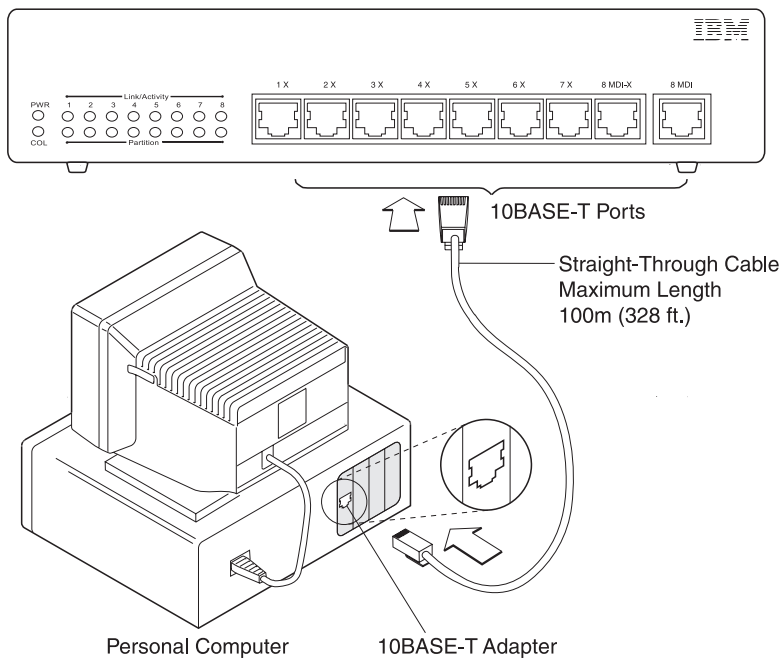

Figure 2-3. Using One Straight-Through Cable
- 2 Connect one end of a straight-through cable to the 10BASE-T connector on the adapter (sometimes called a NIC) in the device and the other end to one of the 10BASE-T ports on the hub. See Figure 2-3 on page 2-6 for an illustration of this connection. If the device has an external 10BASE-T instead of an internal adapter, connect the straight-through cable to the transceiver and then to the hub.